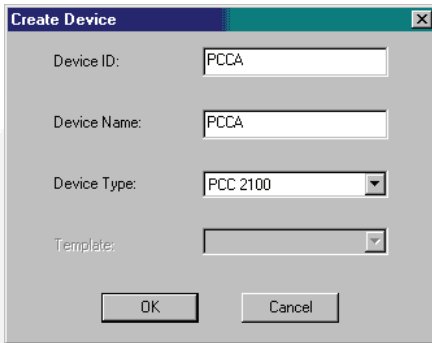

FIGURE 2-28. CREATE DEVICE DIALOG
3. With **PCC_3100** selected in the **Site List**, click on the **Device Setup** button, then click on the **Add** button, to create a new device (Refer to Figure 2-28).